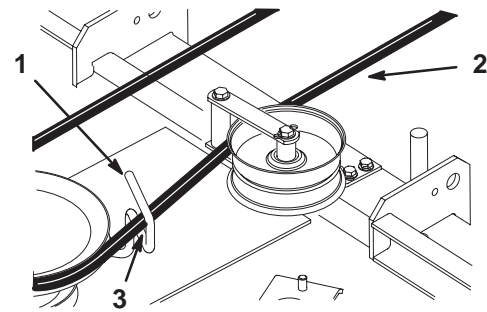

Figure 65
11. Rotate the belt guide on the rear of the mower so that it is 1/8–1/4 inch (3–7 mm) away from the vertical side of the PTO belt (Fig. 65).